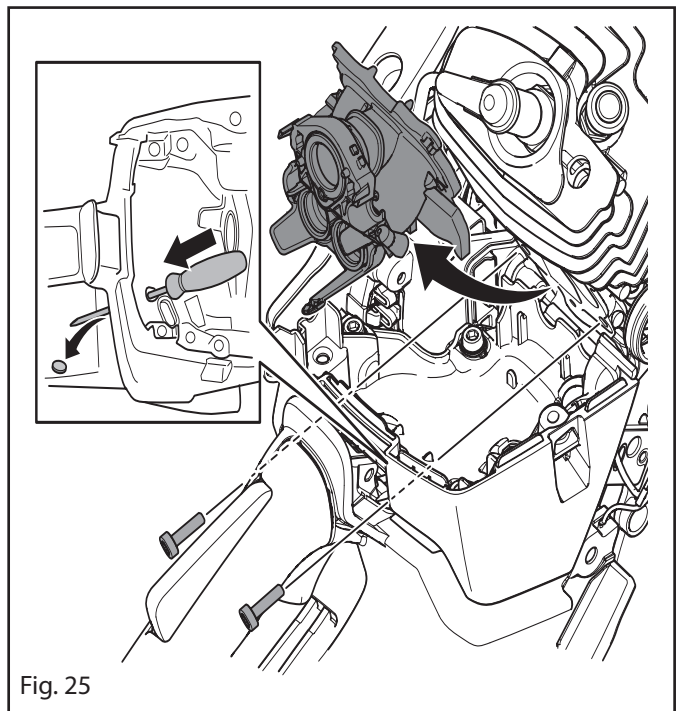

Fig. 25
3. Punch a hole in the carburettor area base using a screwdriver. See figure 25.
4. Unfold the rubber cover and loosen the right of the lower screws on the manifold 2-3 turns. Use the hole that you punched in the carburettor area base to reach the screw from a suitable angle. See figure 25.
5. Unfold the rubber cover and loosen the left lower screw 2-3 turns. Use the start/stop switch opening to reach the screw from a suitable angle. See figure 25.
6. Tilt the manifold forward (away from the cylinder) and carefully pull it upwards to remove it. See figure 25.